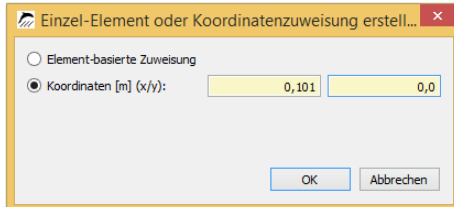

Figure 9 Arrangement of the outputs directly on the end grain of the joist end
0.101 m (Figure 9), 0.15 m and 0.2 m can be specified. For the y-direction 0.0 m is used which means that all output points are located along the middle of the real wooden beam (double use of symmetry).